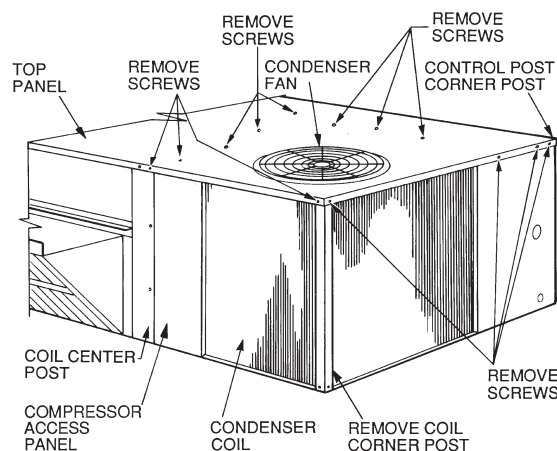

Fig. 12 — Cleaning Condenser Coil
3. Remove the condenser coil corner post. See Fig. 12.